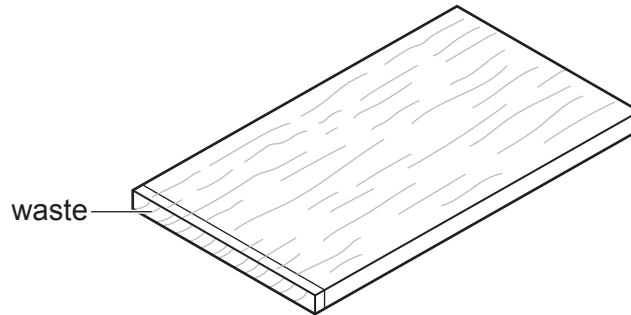

Fig. 13.3
- (iii) Fig. 13.3 shows the front part of the nesting box after it has been cut from the length of softwood.